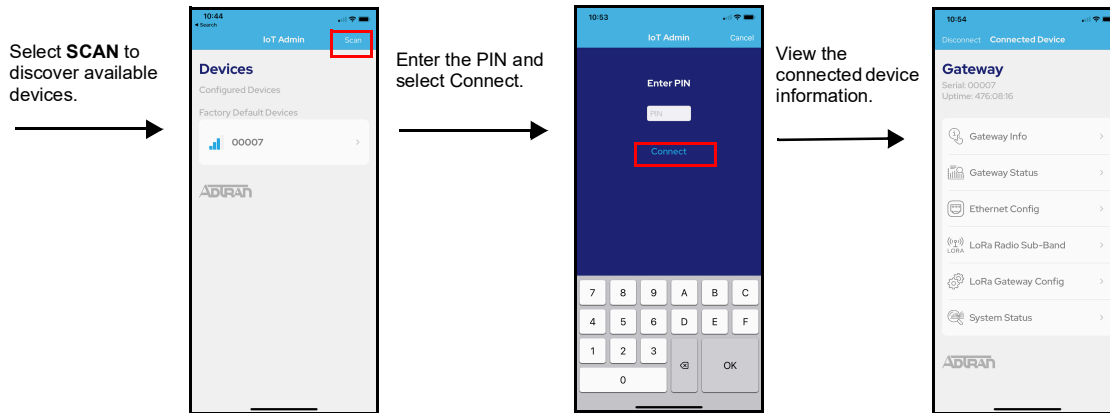
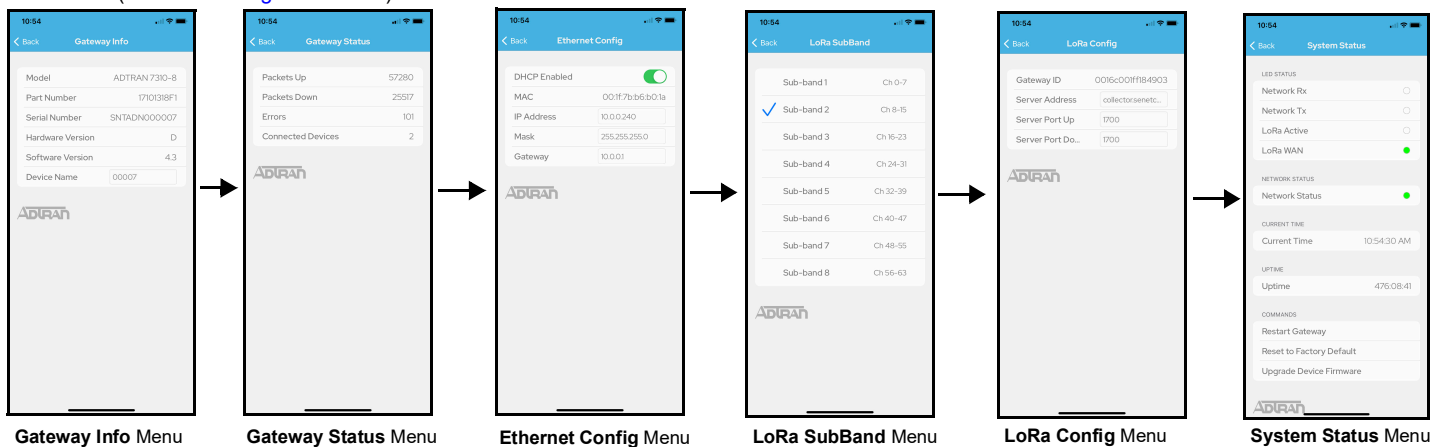

Figure 5. Bluetooth LoRaWAN Device Discovery
Figure 6. ADTRAN IoT App Menus
- Open the ADTRAN IoT app on your Apple device and select **SCAN** from the menu. The application will scan for any ADTRAN LoRaWAN gateways within the Bluetooth connection range, and provide you the option to connect to any discovered devices. Discovered devices will be displayed; the default name of any discovered device is set to the last 5 digits of the device's serial number (for example, **00007**, as shown in Figure 5).
- To connect to a discovered device, select the device from the list and enter your PIN when prompted. The PIN will always be the last 5 digits of the gateway's serial number. After entering the PIN, select **Connect** (as shown in Figure 5). Once the connection is complete, the device information and configuration is accessible from the **Connected Device** menu.
- Once you have connected to the LoRaWAN gateway using the ADTRAN IoT app, you can access the configuration, device information, power settings, and device status information from the ADTRAN IoT app directly. Each menu shown in Figure 6 is available from the **Connected Device** menu (as shown in Figure 5 above).